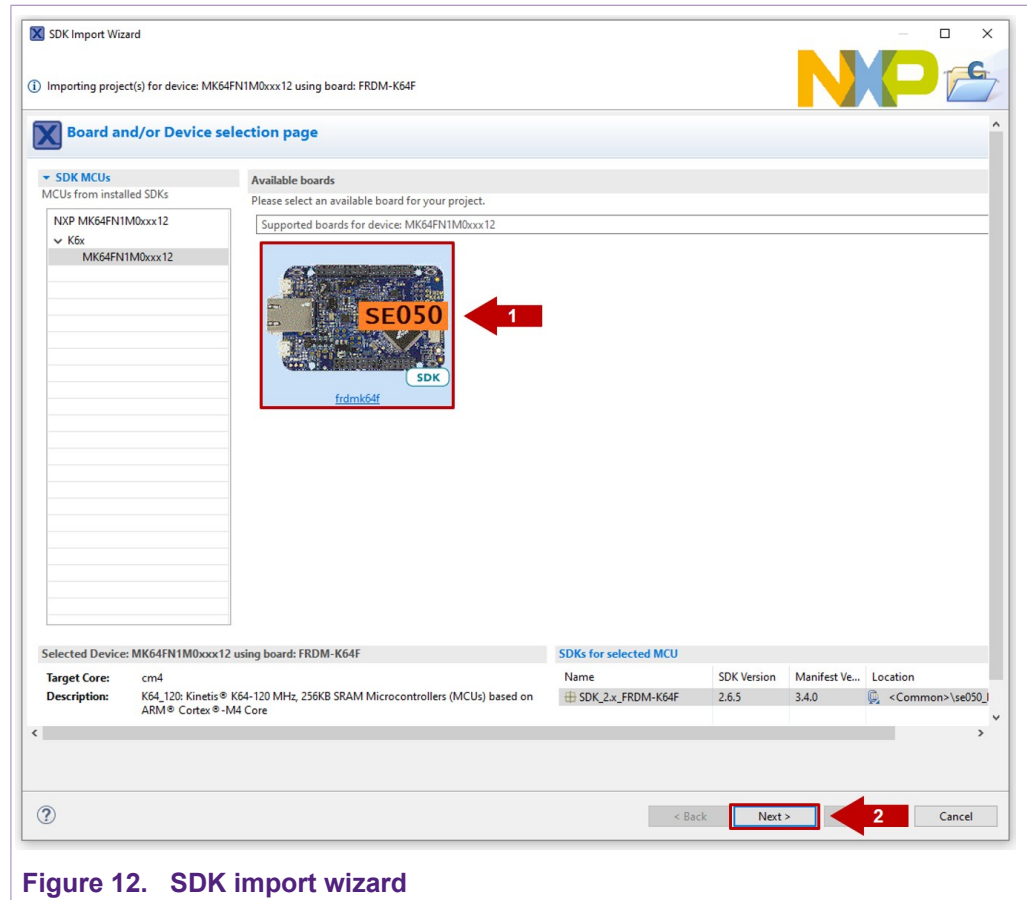

Figure 12. SDK import wizard
2. The SDK import wizard will be opened. You should see a figure of an FRDM-K64F board with an SE050 orange label. Select the board and click *Next* button as shown in Figure 12: